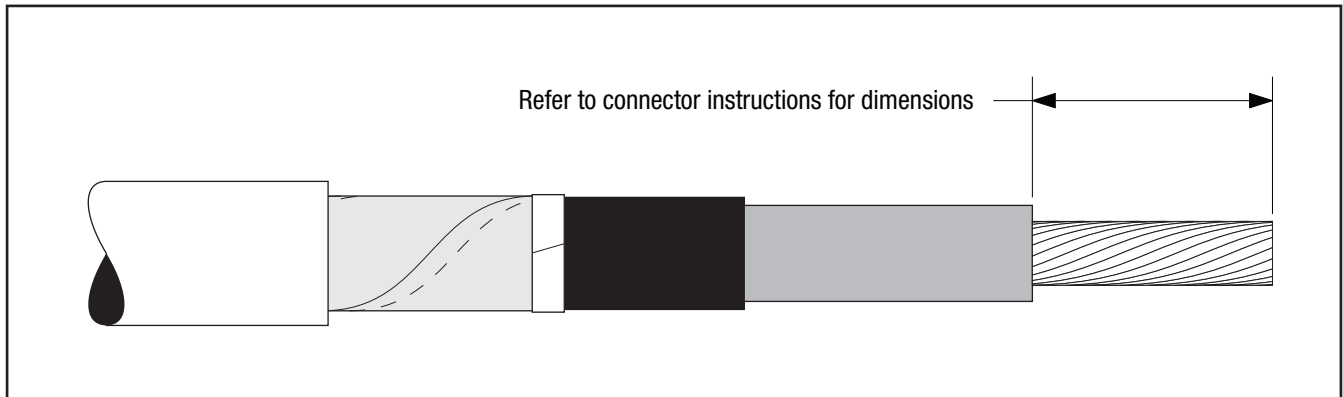

Figure 4
- 3.1** If using a 3M Shearbolt Connector QCI 350-750, refer to the instructions included with the connector for insulation cut-back dimension. Insulation removal length shall not exceed 3 3/4" (95 mm) from conductor end (Figure 4).